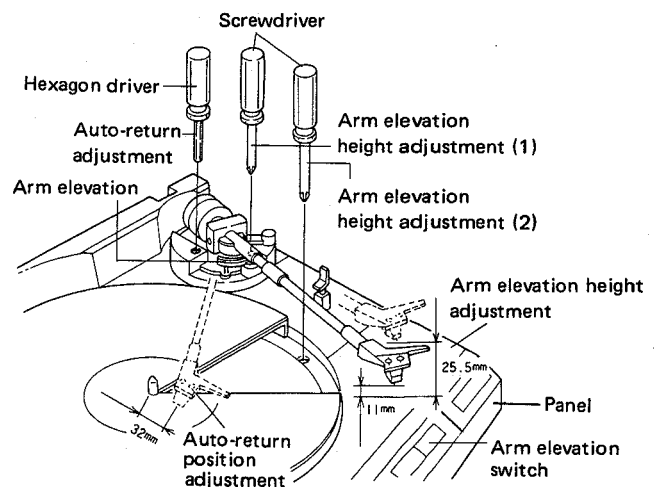

Fig. 11-1 Arm elevation height adjustment and auto-return adjustment
5. Stop turning the adjustment screw at the point at which there is a space of 32 mm between the cartridge stylus and the center shaft. (Fig. 11-1)